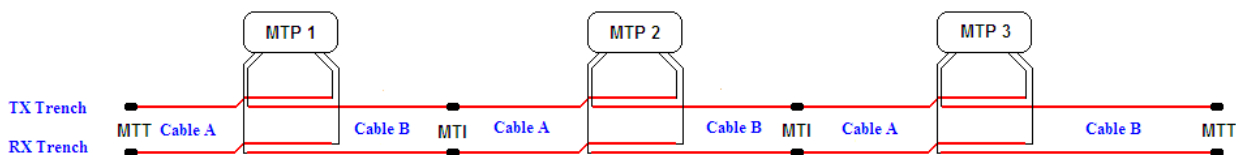
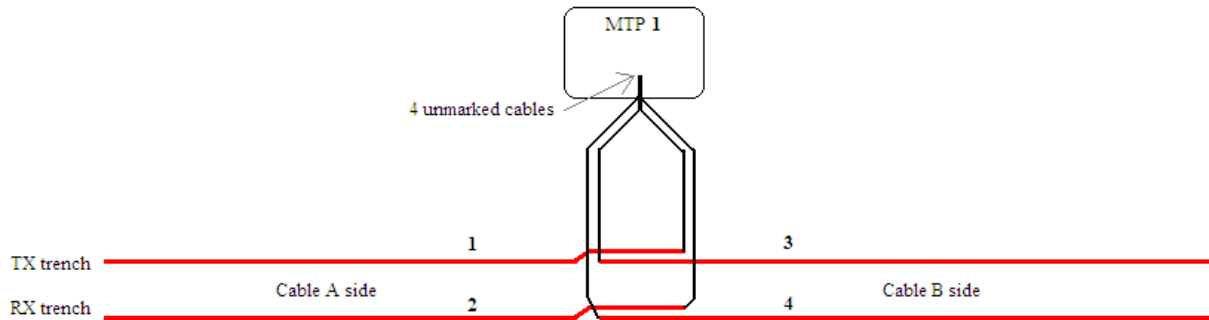

Figure 3
Figure 4
- The first step is to determine how the system is to be configured. There are two (2) steps: 1 - identifying the A and B sides for each MTP II and 2 - selecting one trench for the TX cables and the other trench for the RX cables. There are two basic rules: 1 - Never connect A to A, or B to B. The configuration must always have A to B at every junction. 2 - All of the TX cables must be in one trench, and all of the RX cables must be in the other trench. A TX cable can never be against or connected to a RX cable. It does not matter which trench is TX or RX. An example of this assignment is shown in Figure 3.
- Using Figure 3 as a reference, each of the MTP II's can now be identified as shown in Figure 4. This process is the same for each of the MTP II's. This example will start with MTP 1.